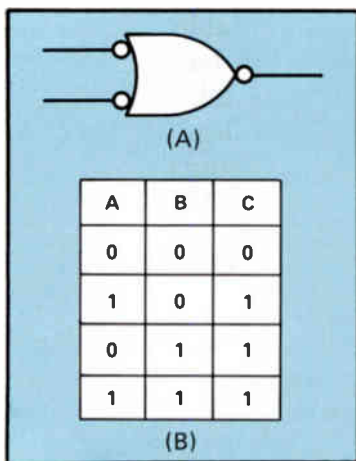

Figure 33. (A) The schematic symbol for a negative logic OR gate, and (B) the truth table.
Figure 33(A) shows the schematic symbol for the negative logic OR gate, and Fig.33(B) is the truth table for the negative logic OR gate. Notice that with this gate, you'll get a binary 1 in the output if you have a binary 1 on either or both of the two inputs. This is the same as for a positive logic OR gate.